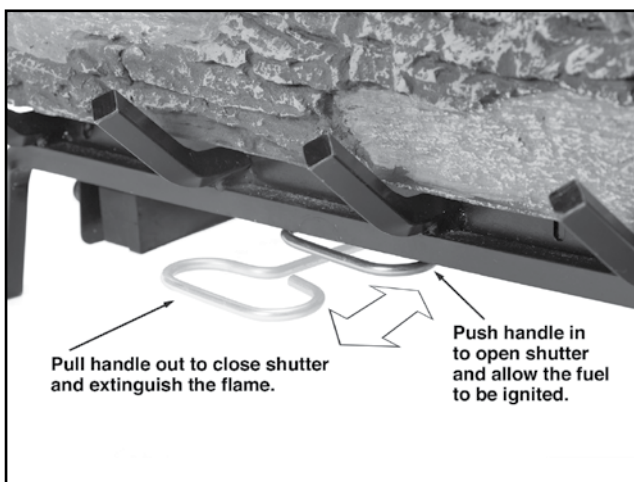
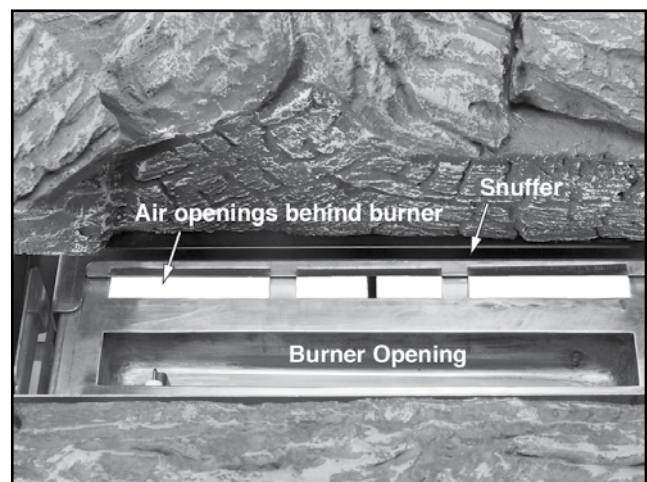

Figure 12
Figure 13
1. Use the handle (located at the front of the appliance beneath the grate – Figure 12) to slide the snuffer device to the rear of the burner. Be sure that the cover is slid back far enough to fully expose the burner slot (see Figure 13) and the air slots behind the burner.